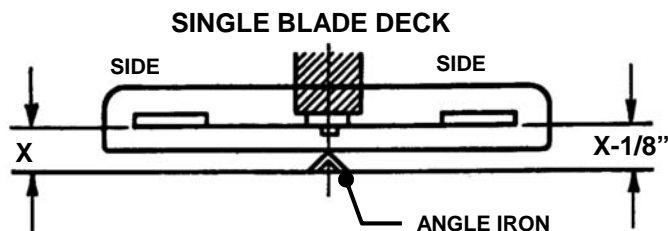

FIGURE 4.8
5. Measure the distance from blade tips to floor. If the measurement is within 1/8" from side-to-side, the deck levelness is satisfactory. If the difference from side-to-side is greater than 1/8", continue to the next page for adjustment. See Figure 4.8.